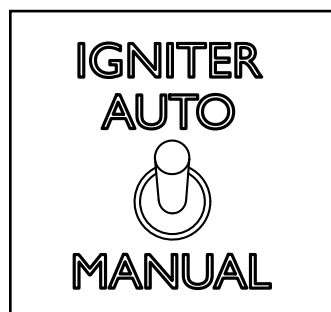
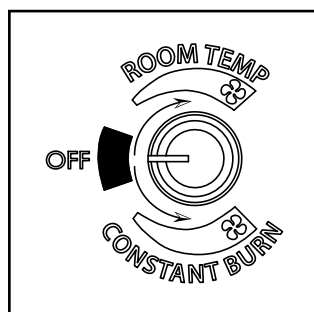

Figure 4.4
Figure 4.5
4. Flip toggle switch to desired mode “auto or manual”. Figure 4.4. Set feed limit knob to desired setting and turn mode dial to “Room Temp” or “Constant burn” Figure 4.5. **Note:** Feed rate of #4 is a good starting point. Adjustments may need to be made depending on fuel quality and/or heat output desired.